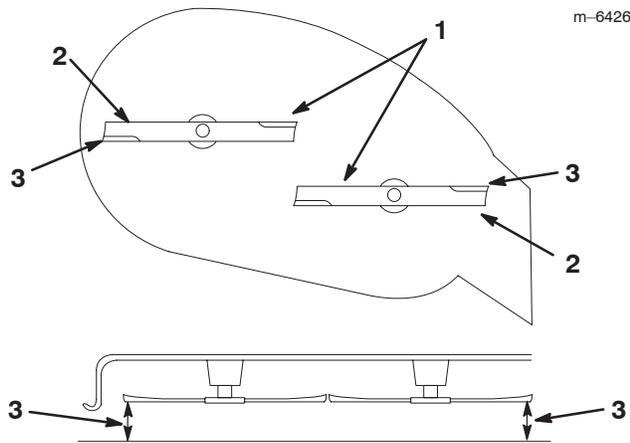

Figure 37
5. Carefully rotate the blade(s) side to side (Fig. 37). Measure between the outside cutting edges and the flat surface (Fig. 37). If both measurements are not within 3/16 inch (5 mm), an adjustment is required; refer to steps 6 through 8.